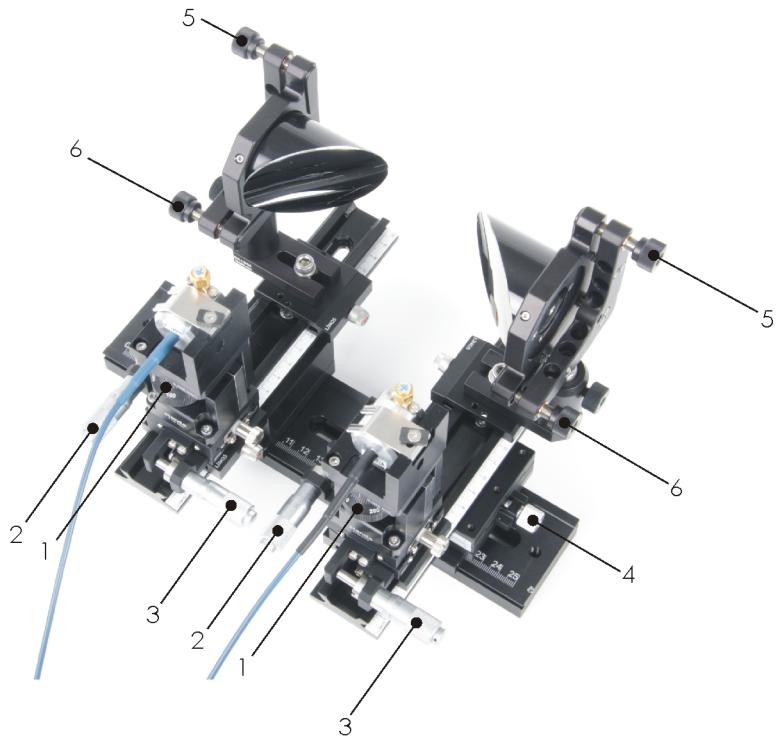

Figure 46 Adjustment screws of photomixer and mirror mounts
It is recommended to check from time to time whether the terahertz amplitude is still at a positive (or negative) maximum. Use the manual delay stage (item 4 in Figure 46) to change the phase. Readjust the phase if required.